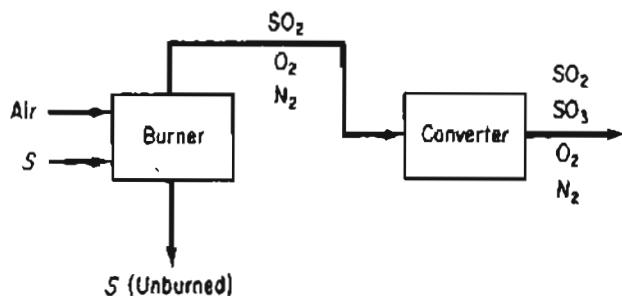

Figure SAT11P2
3. In the process for the production of pure acetylene, C_2H_2 (see Figure SAT11P3), pure methane (CH_4), and pure oxygen are combined in the burner, where the following reactions occur: